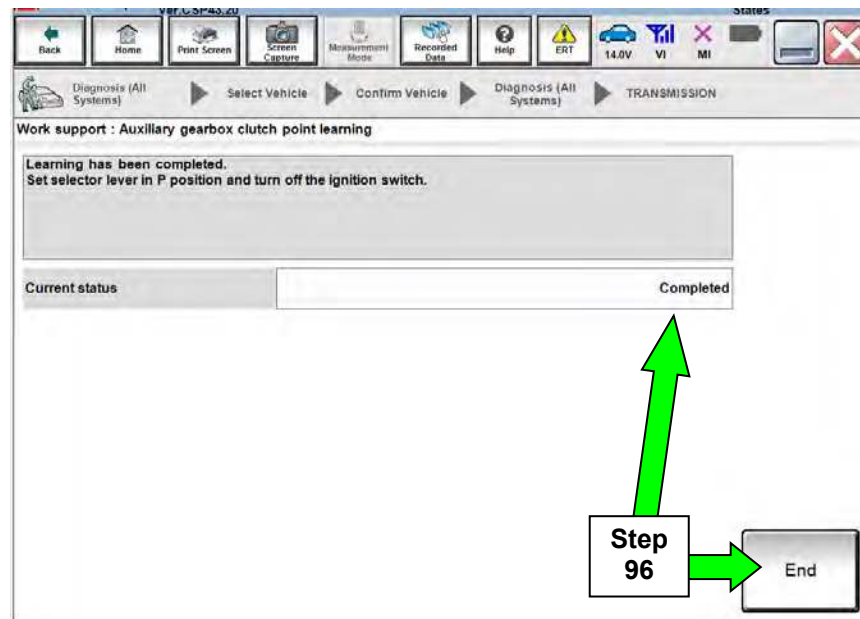

Figure 54
95. Continue to depress the brake pedal until the Current status shows “Completed” as shown in Figure 54 on page 135.